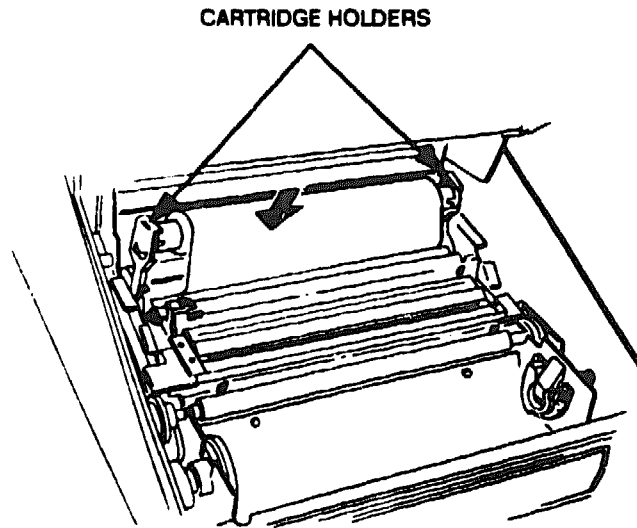

Figure 6-2 Mounting the Take-Up Roller on the Supply Ribbon Cartridge
3. Roll up the ribbon around the ribbon core roller and mount the ends of the core roller onto the supply ribbon cartridge holders (see Figure 6-2).